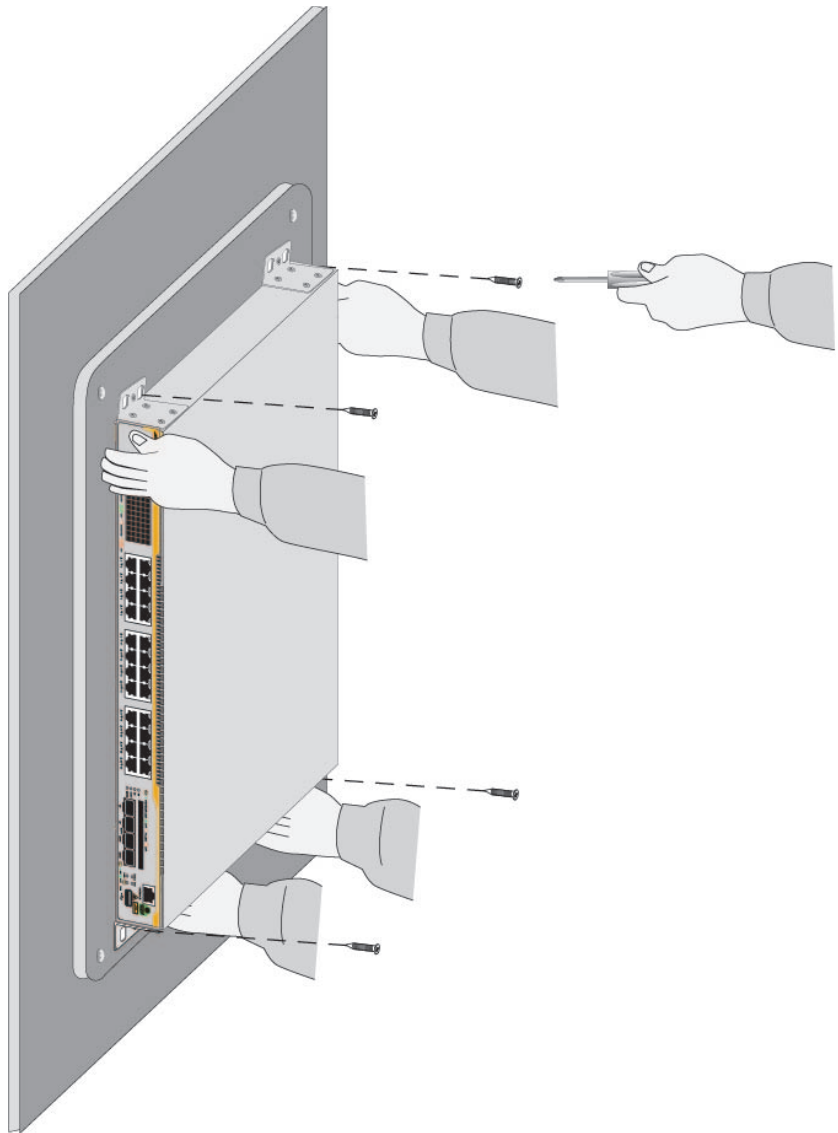

Figure 55. Installing the Switch on a Concrete Wall
7. Have two people hold the switch at the selected wall location while you secure it to the wall with the four provided screws. See Figure 55.